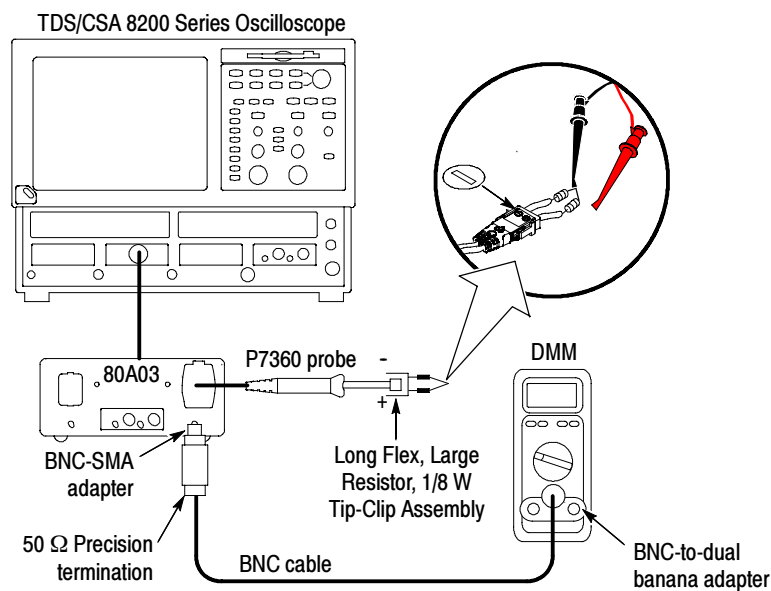

Figure 12: Setup for the output offset zero test
1. Connect the equipment as shown in Figure 12.
3. Short the two Tip-Clip leads together (see Figure 12.) We recommend using the BNC(m)-to-Minigrabber (black) with the Minigrabber not grounded.